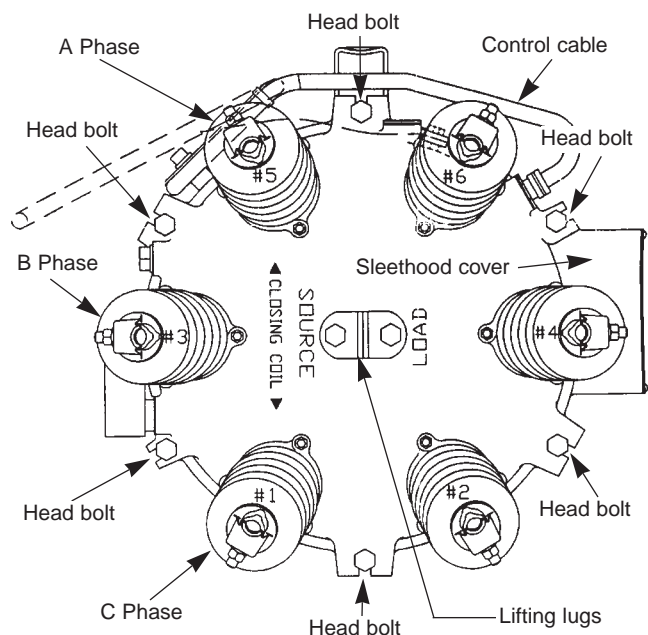

Figure 3.
2. With the recloser in the Open position, untank the recloser by loosening the six head bolts and washers on the head casting. Carefully lift the head assembly out of the tank using the lifting lugs (refer to Figure 3).
3. Remove the source-side bushing terminals 1, 3, and 5 from their bushings (refer to Figure 3). Remove and discard the terminal gaskets.